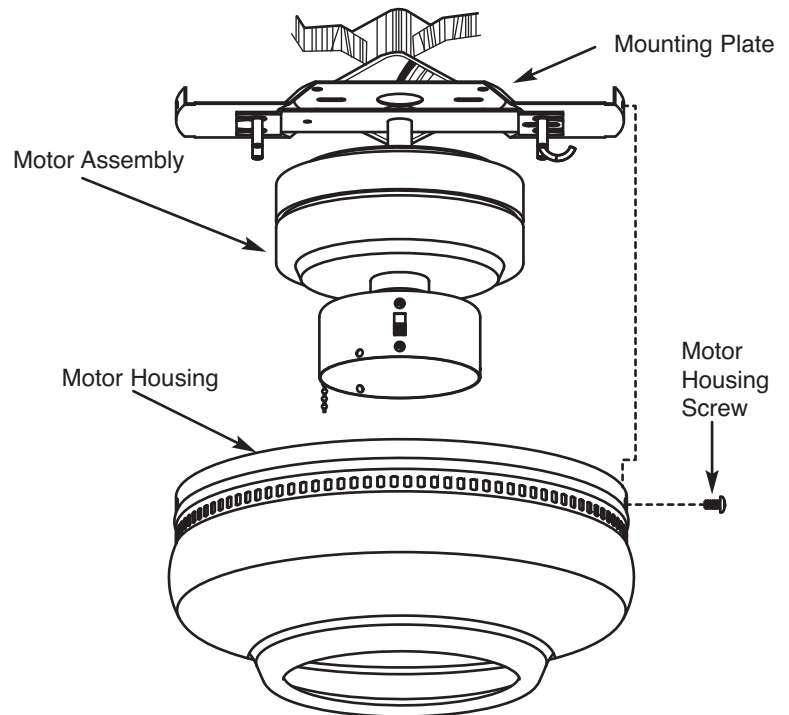

Fig. 6
Carefully slide Motor Housing over Motor Assembly (see figure 6) and secure with four (4) Motor Housing screws.